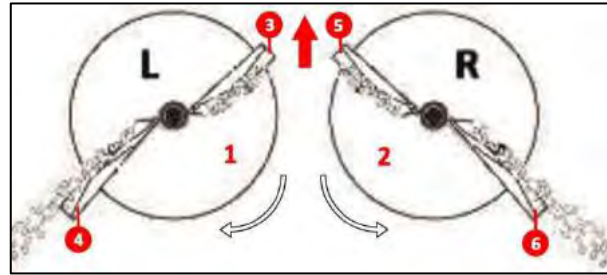

Fig. 11
- Left Disc (Fig.11/1)
- Right Disc (Fig. 11/2)
- Left throw wing short (Fig.11/3)
- Left throw wing long (Fig.11/4)
- Right throw wing short (Fig.11/5)
- Right throw wing long (Fig.11/6)